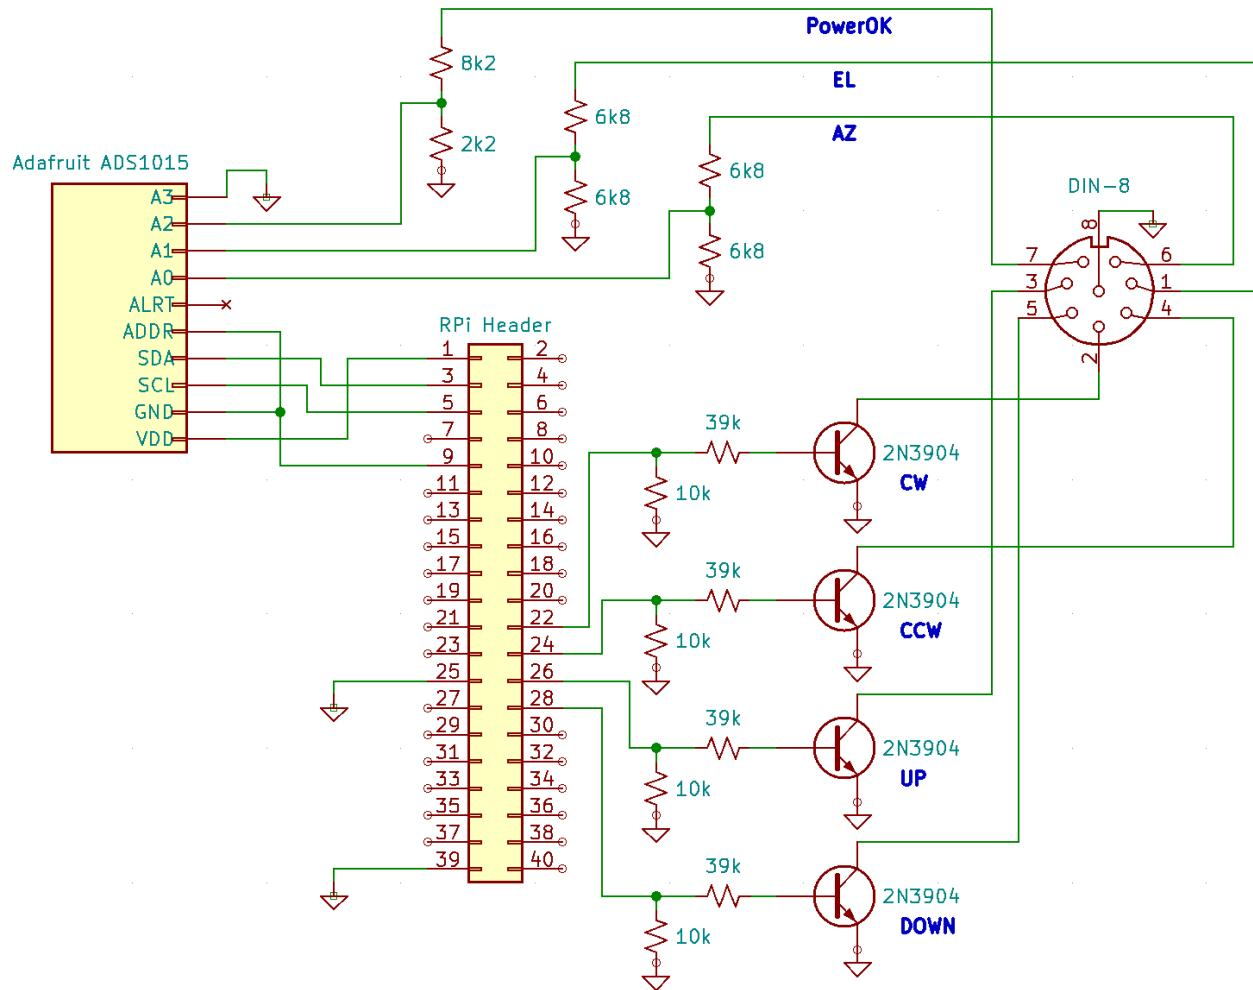

Figure 1: Circuit connecting Raspberry Pi to Yaesu G5500 controller
1. This software can be used to control a Yaesu G5500 az-el rotator connected from its rear 8 pin DIN connector to a Raspberry Pi using the circuitry shown in Figure 1.